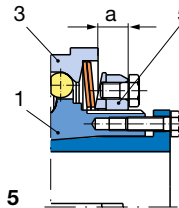

Fig. 5
□ EAS®-Compact® ratchetting and synchronous clutch (Sizes 01 - 3): Dimension “a” is the distance between the adjusting nut facing-side (5) to the thrust washer facing-side (3) (Fig. 5).